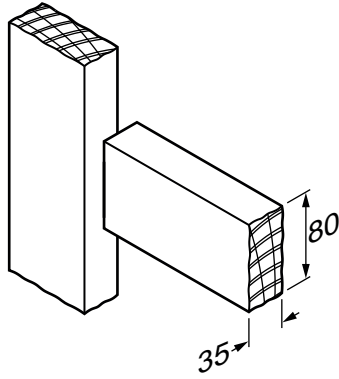

Fig. 9.1
- 9 Fig. 9.1 shows two lengths of softwood that are to be joined at 90° to each other.